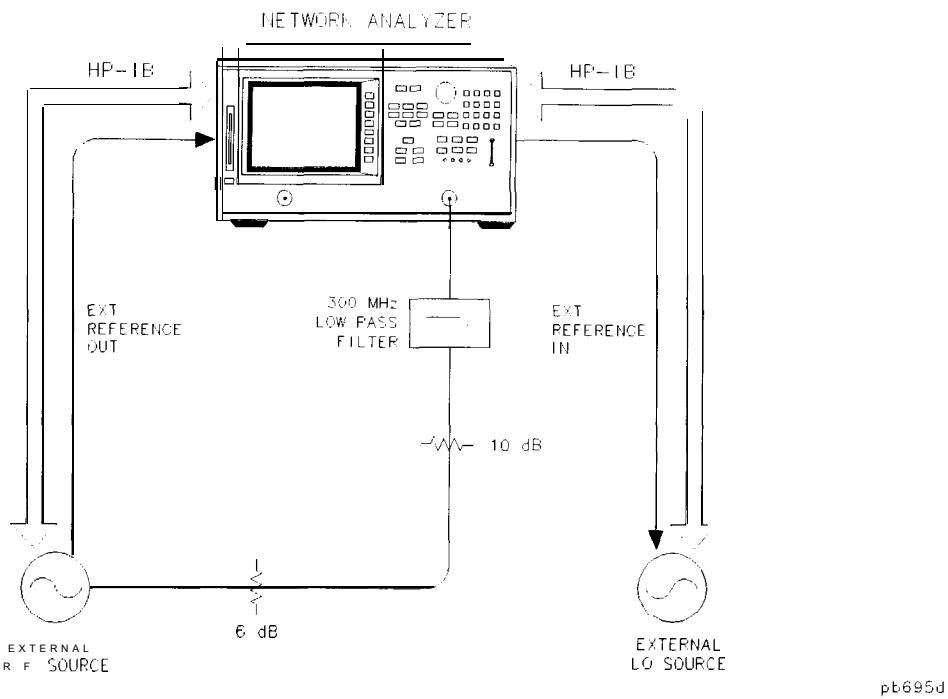

Figure 3-14. Connections for a Response Calibration
1. Make the following connections as shown in Figure 3-14. Set the HP-IB address of the external RF source to 19 and the external LO source to 21.